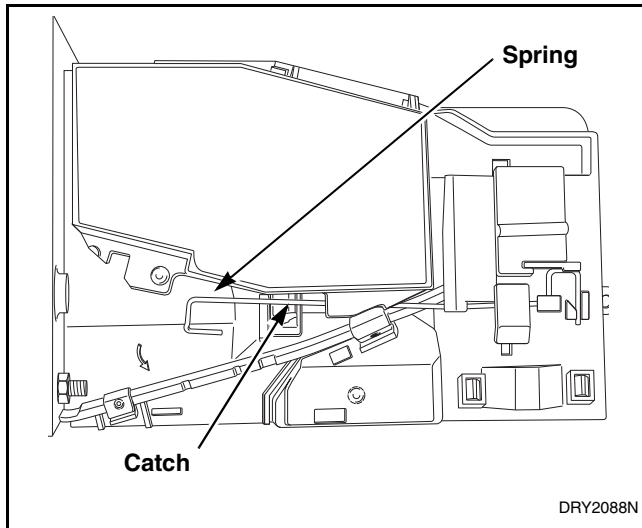

Figure 23
Coin Drops with Old-Style Spring (refer to Figure 23):
- (1) Move spring downward until cover catch is free. Refer to *Figure 23*.